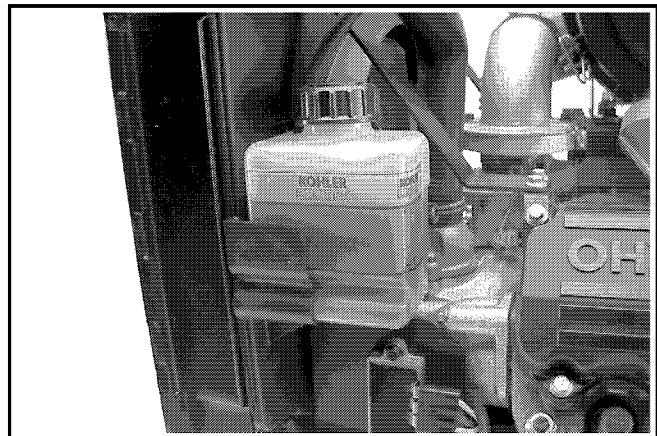

Figure 9. Coolant Levels on Reservoir.
1. Check the coolant level within the overflow reservoir. Coolant level should be between the "FULL" and "ADD" marks on the reservoir. See Figure 9. **Do not** operate the engine with the coolant level below the "ADD" mark.
3. Fill the cooling system through neck for radiator with the coolant mixture. Allow coolant to drain into the lower areas. Fill the overflow reservoir to a level between the "FULL" and "ADD" marks. See Figure 9. Reinstall the radiator and reservoir caps.
5. Recheck the coolant level in the reservoir. Coolant level should be between the "FULL" and "ADD" marks. Add coolant to reservoir if required. See Figure 9.